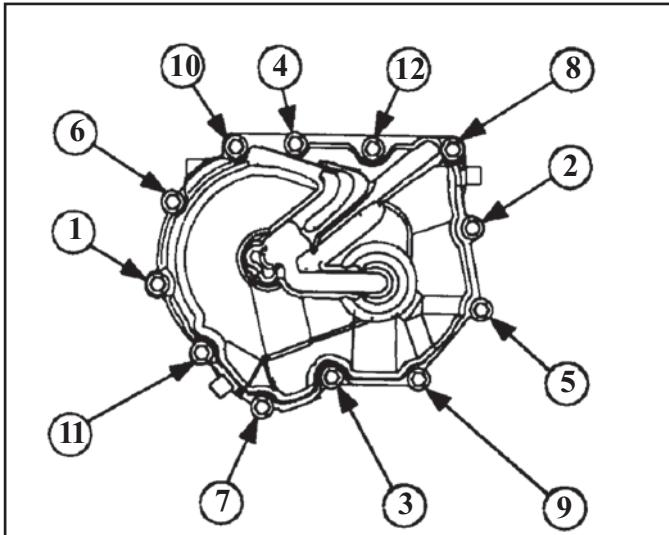

Figure 209
43. Install the end cover bolts and torque bolts in the numerical sequence shown in Figure 209. The bolts should be torqued to 28 N·m (21ft. lbs).